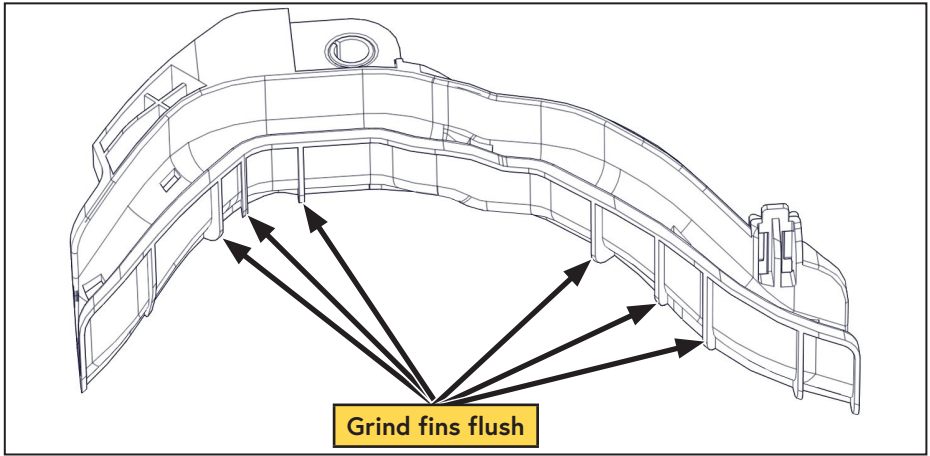

Figure 10 — Modifying the cable tray
- Grind the fins flush with the cable tray body (Figure 10).
*There may be enough clearance to fit the compressor by grinding the fins on the cable tray flush with the rest of the plastic. Try this first and reinstall the cable tray (Figure 10).*